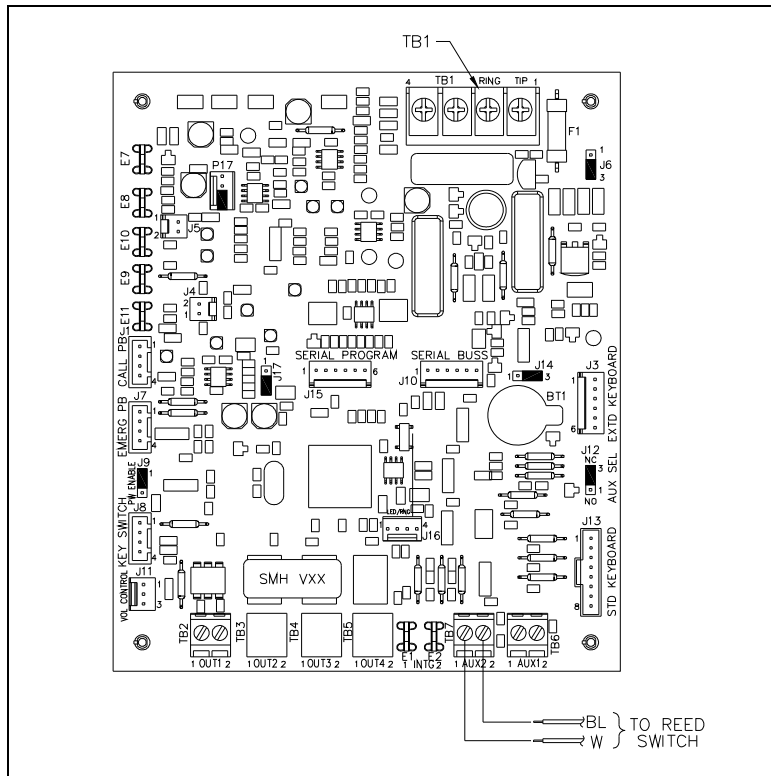
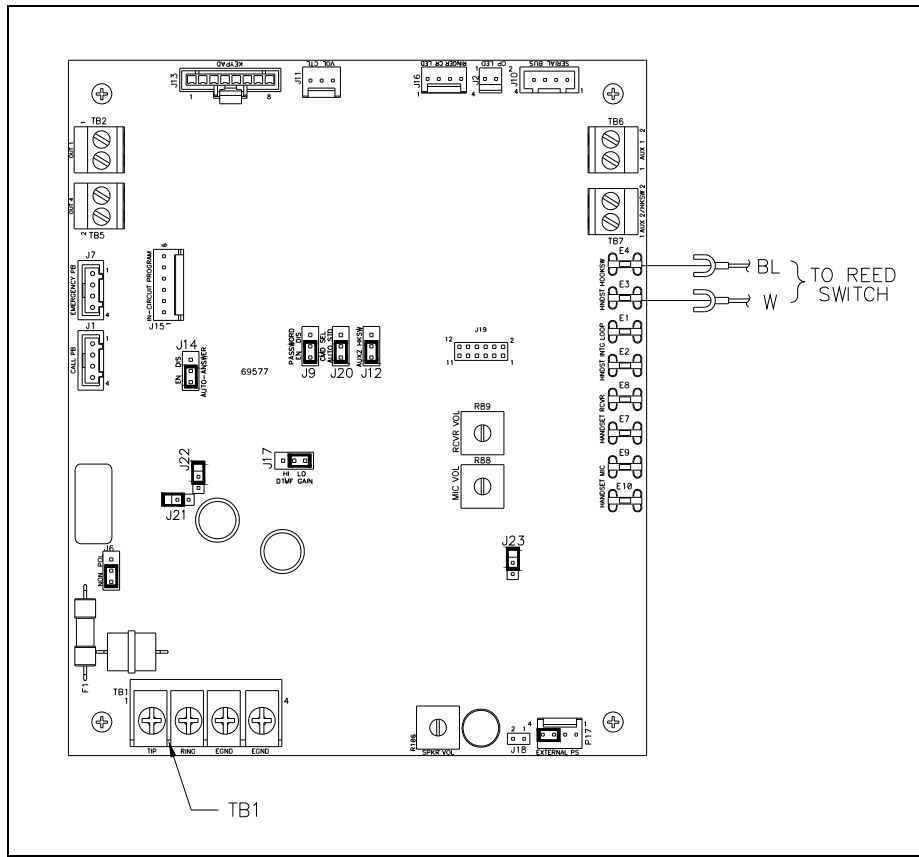
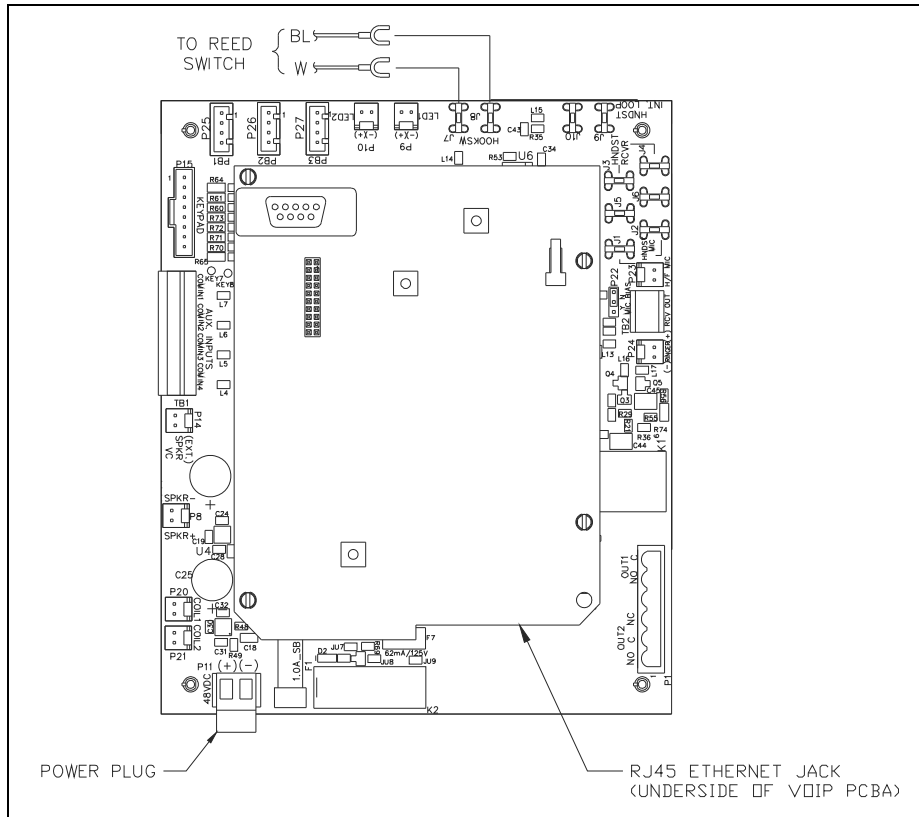
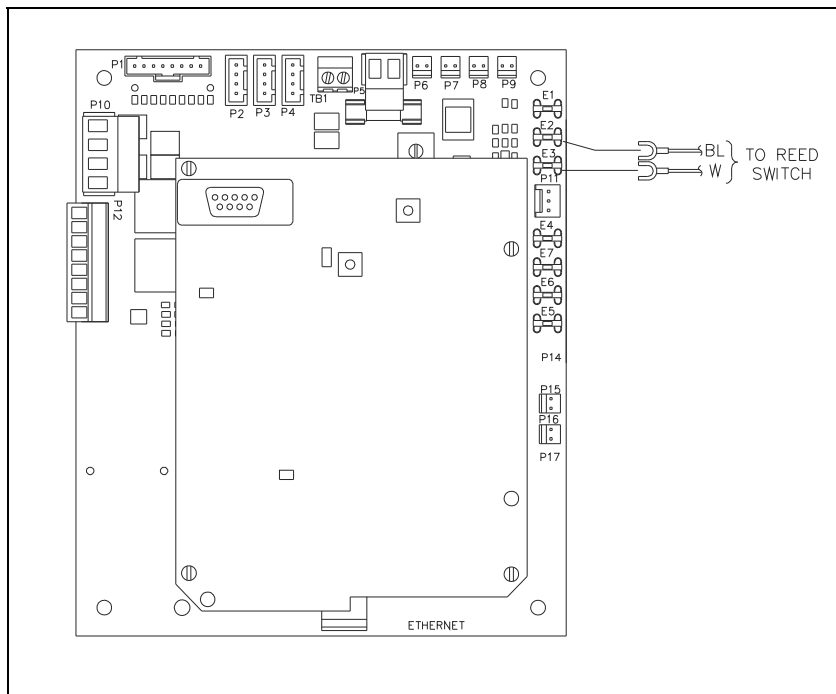

Figure 5. Emergency/Smart Telephone PCBA (for Models 24x-003 and 25x-003)
Figure 6. Smart Handset Telephone PCBA (for Models 24x-005 and 25x-005)
Figure 7. VoIP Carrier and Circuit PCBA (for Models 246-700 and 256-700 using the 69841 PCBA)
Figure 8. VoIP Carrier and Circuit PCBAs (for Models 246-700 and 256-700 using the 69631 PCBA)
2. For Models 24x-003 and 24x-005: Disconnect the red (Ring) and green (Tip) wires from TB1 (See Figure 5 and Figure 6).
3. For Models 246-700 and 256-700: Disconnect the power plug (P11) or unplug the Ethernet cable if powered via PoE (See Figure 7 or Figure 8).
4. Plug the spades on the blue and white wires into the appropriate E-clips on the PCBA. For models with the suffixes -005 and -700, (See Figure 6 and Figure 7).
For models with the suffix -003, clip off the spade lugs, strip ¼ inch of insulation from the wire, and install the leads into TB7 (See Figure 5).